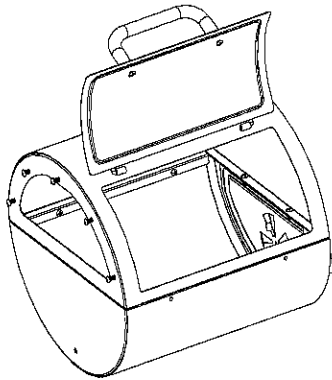

Fig.15A
*Locate:* Assembled Firebox and Right Side of the Charcoal Grill, (6)M6X15 KEPS bolts
Refer to Fig. 15A and screw (5) M6x15 KEPS bolts into the (5) threaded holes in the side of the Firebox, allowing about a 1/4" of an inch of the bolt head to remain sticking out.